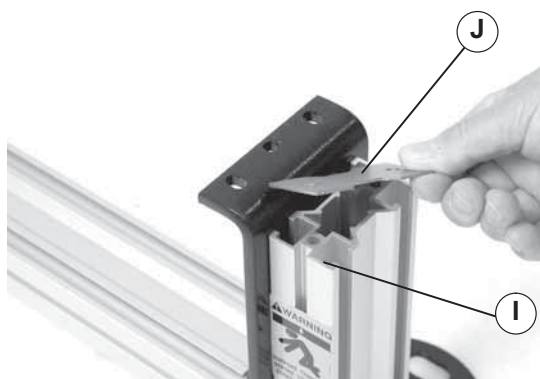

Figure 9
12. Align end cap (Figure 9, item J) with top of leg assembly (I).